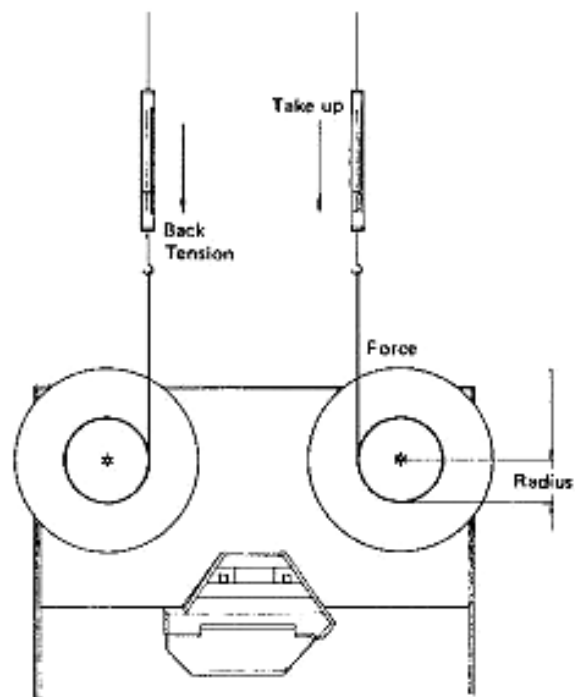

Fig. 2-4.
5. Hold the spring scale with enough force to allow steady reading. See Fig. 2-4.
5. After making sure that the reel motion is smooth (the string should not be rubbing against the reel flanges), note the value indicated on the scale. See Fig. 2-4.